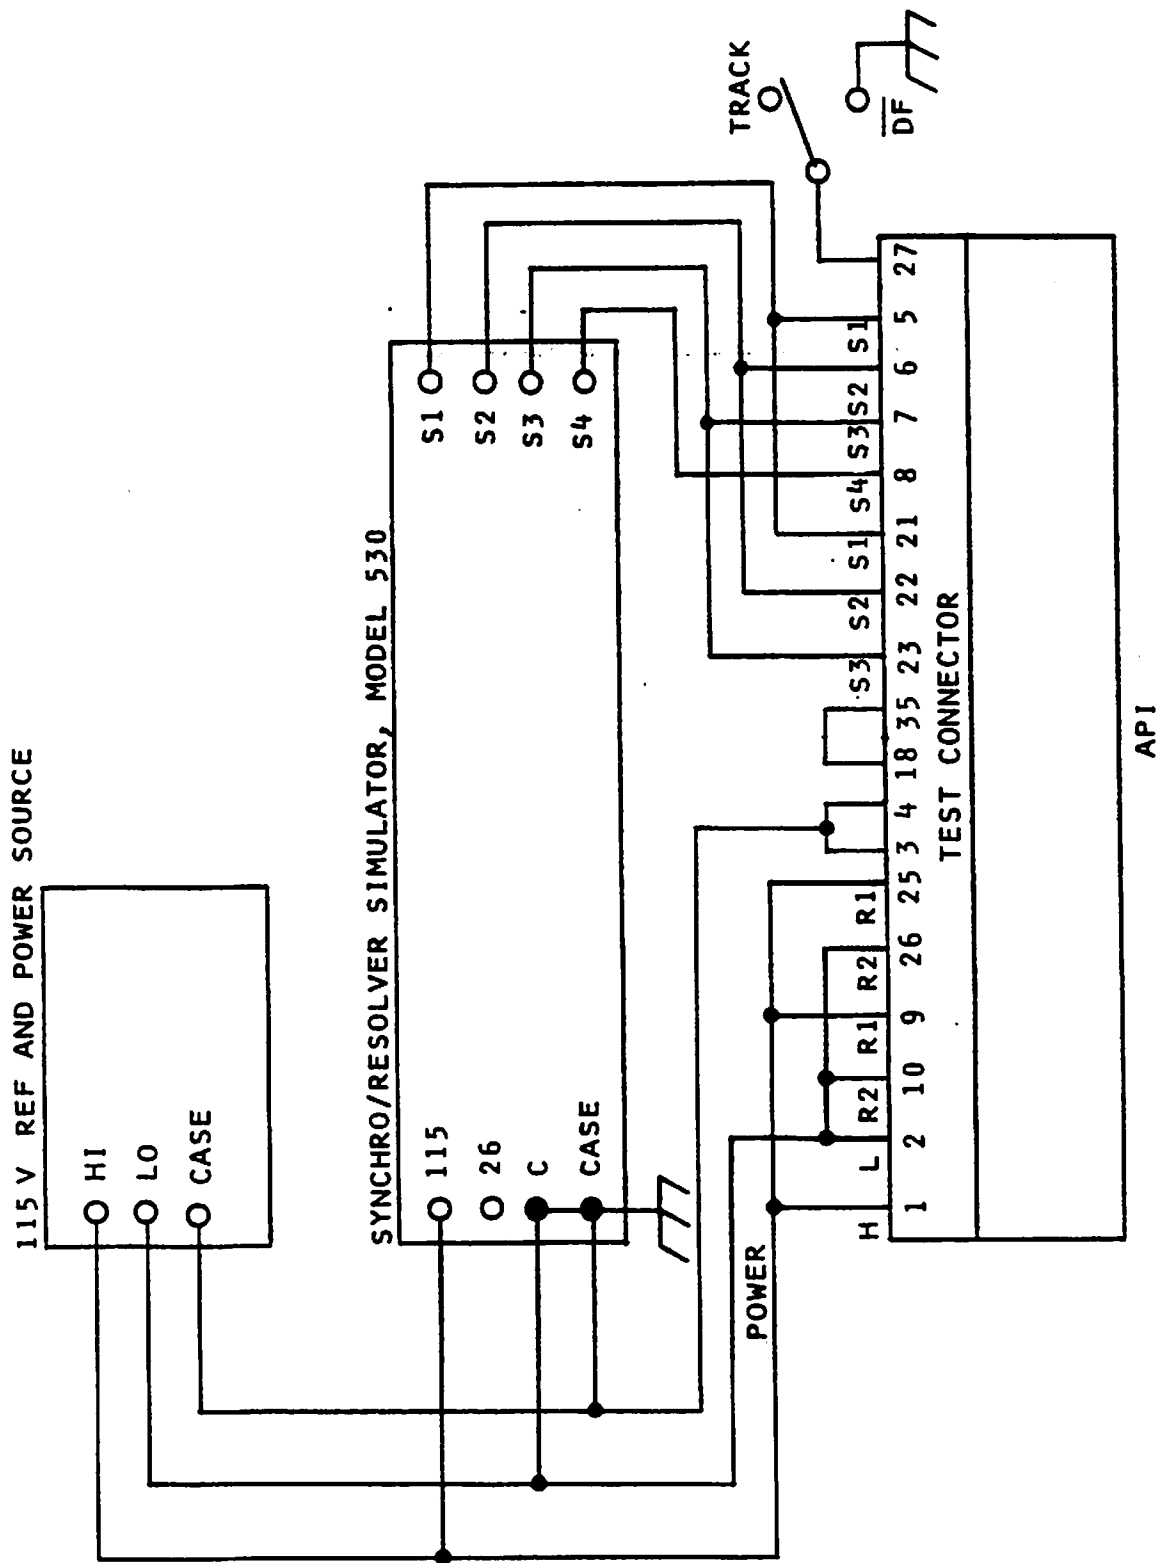

Figure 5-1. Test Set-up
- c. Wire up the test connector and connect the equipment as shown in figure 5-1.